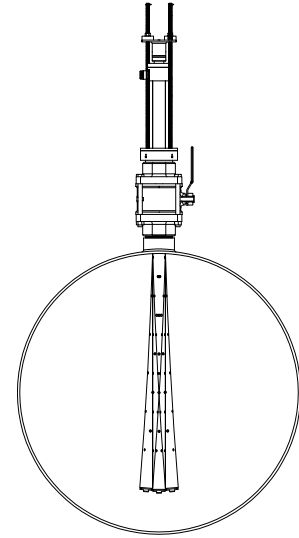

Figure 12: Sensor Vibration
4. Insert the *sensor* into the pipe by *simultaneously* rotating the two captive nuts on the top plate clockwise (See Figure 12) with the provided 9/16" ratchet wrenches or the Sensor Insertion Tool (See STEP 12) until the foot of the *sensor* reaches the far wall of the pipe and the load spring starts to compress. Compression of the load spring is indicated by the movement of the set screw on the top plate. See STEP 13.